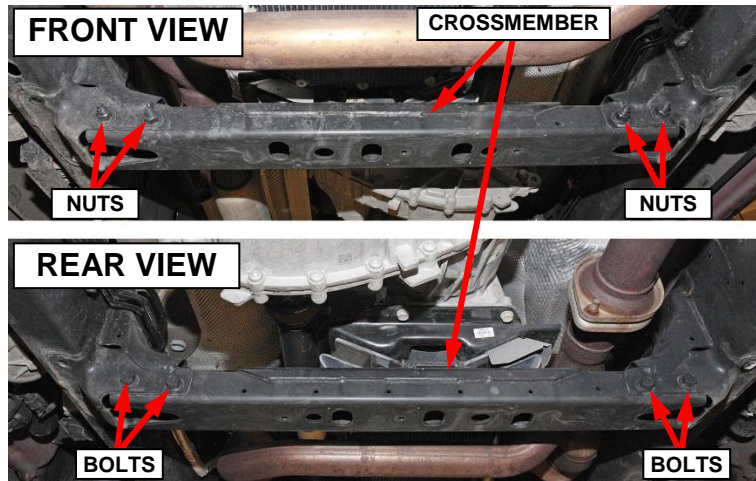

Figure 18 – Transmission Crossmember
23. Remove and **SAVE** the four nuts and bolts then remove and **SAVE** the crossmember (Figure 18).
8. Install the transmission crossmember and the four bolts and nuts (Figure 18). Tighten the bolts to 115 N·m (85 ft. lbs.).